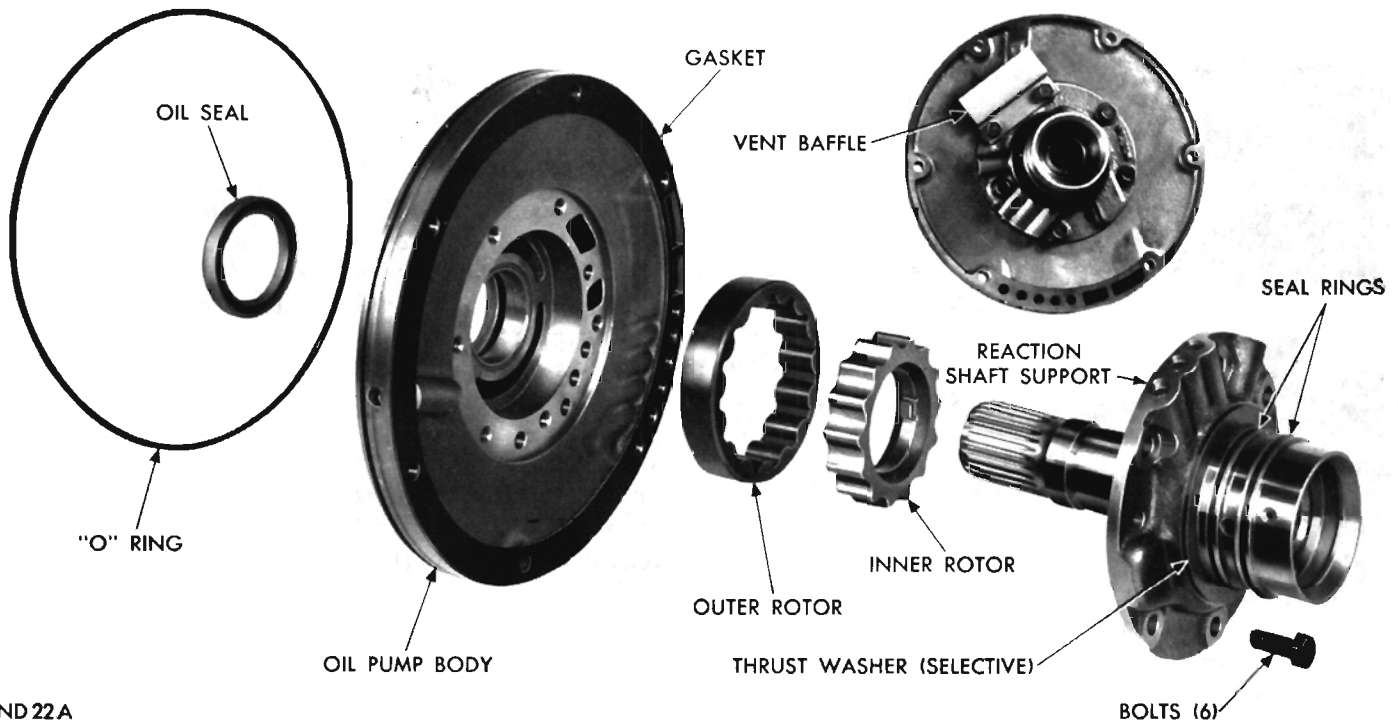

Fig. 63—Oil Pump and Reaction Shaft Support (A-727)
Figure 63 shows the oil pump and reaction shaft support disassembled.
Inspect interlocking seal rings (Fig. 63) on reaction shaft support for wear or broken locks, make sure they turn freely in the grooves. Do not remove rings unless conditions warrant. Inspect machined surfaces on pump body and reaction shaft support for nicks and burrs. Inspect pump body and reaction shaft support bushings for wear or scores. Inspect pump rotors for scoring or pitting. With rotors cleaned and installed in pump body, place a straight edge across face of rotors and pump body. Use a feeler gauge to measure clearance between straight edge and face of rotors. Clearance limits are from .0015 to .003 inch. Also, measure rotor tip clearance between inner and outer teeth. Clearance limits are from .005 to .010 inch. Clearance between outer rotor and its bore in oil pump body should be .004 to .008 inch.
(1) Assemble pump rotors in the pump housing (Fig. 63).
(2) Install reaction shaft support and position vent baffle over vent opening. Install retaining bolts and tighten to 150 inch-pounds.
(3) Place a new oil seal in opening of pump housing